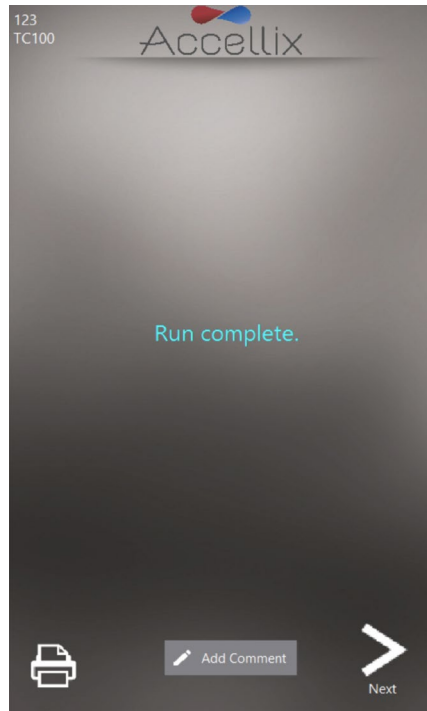
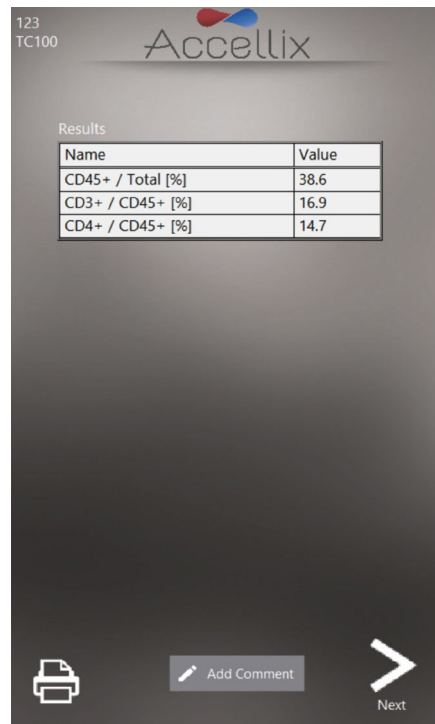

Figure 41: Example of Run Complete screen
Figure 42: Example of On-screen Results Report
The following two screens are examples of potential result displays (Figure 41 and Figure 42):
- a. For an assay which produces an on-screen results report, e.g., T Cell RTF (L) Assay, a **Results** screen will be displayed on the screen at this point. See example of on-screen **Results** report in Figure 42.